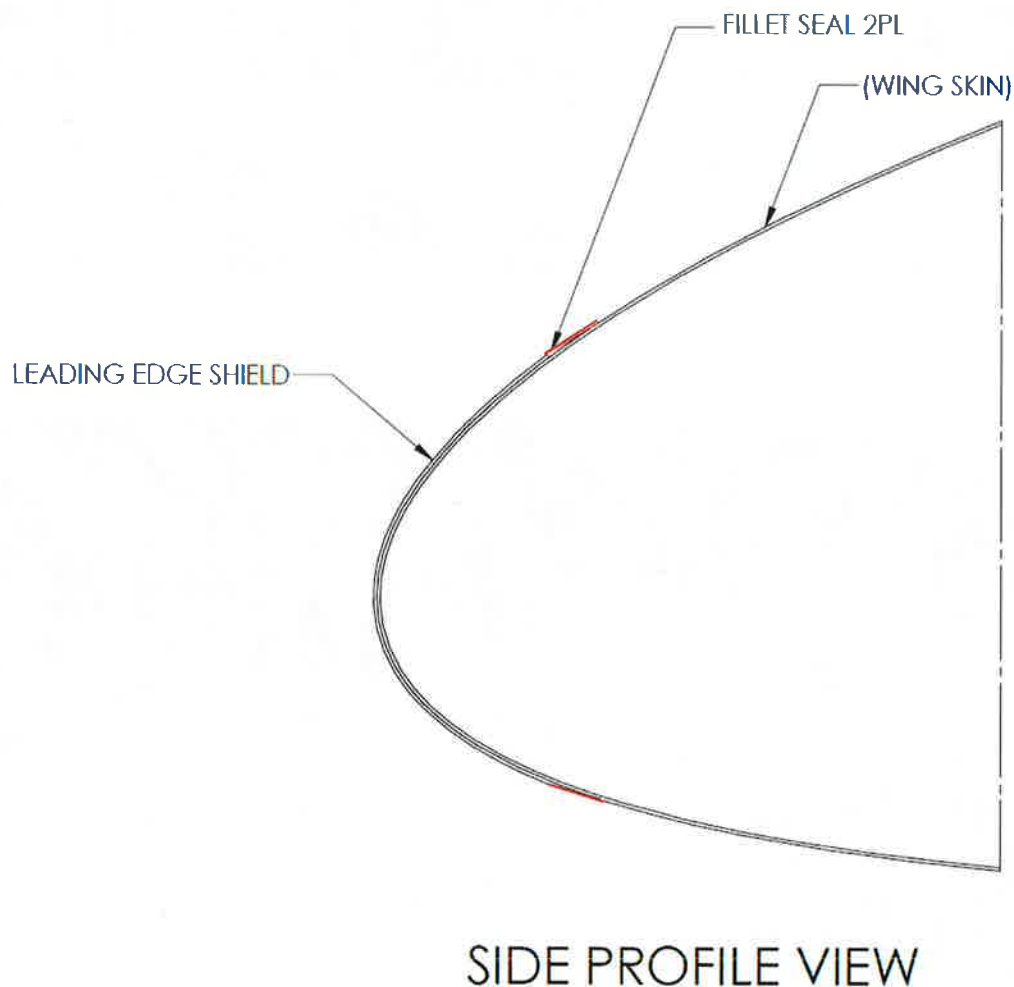

Figure 8-7
14. Apply fillet seal with Sikaflex 291 marine sealant (Sikaflex 521UV optional) as shown. (Reference Figure 8-7)